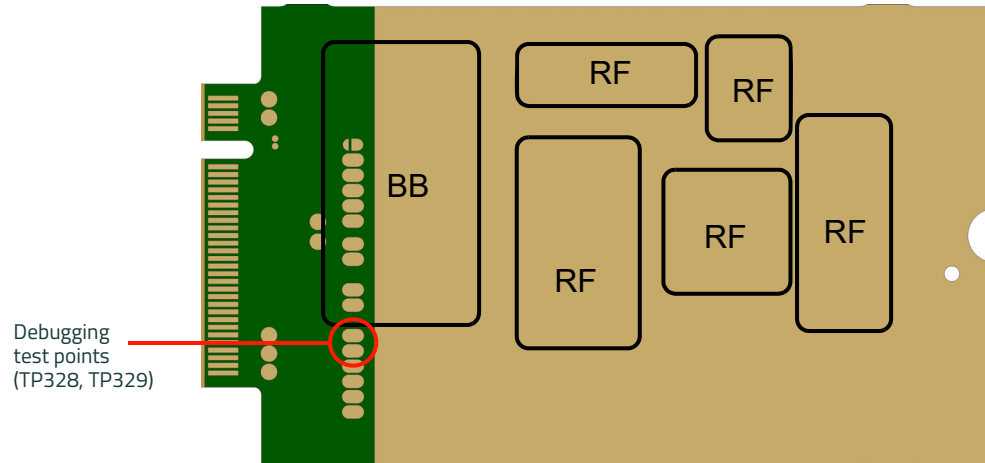
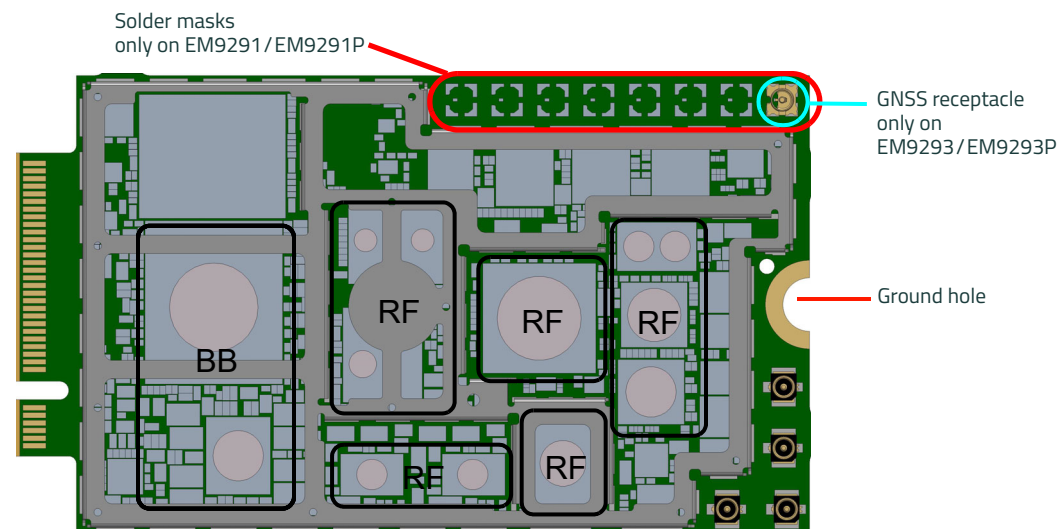

Figure 6-6: Regions requiring thermal dissipation (Bottom view)
Figure 6-7: Regions requiring thermal dissipation (Top View)
Sierra Wireless recommends that the host device dissipate heat from the bottom surface of the module PCB and, if desired, from the top surface of the module shield. Figure 6-6 and Figure 6-7 display the locations of significant heat sources (BB — baseband components, RF — RF components) that require heat dissipation.
- Note — Sierra Wireless recommends that the debugging test points (TP328 and TP329, see Figure 6-6) remain accessible for Sierra Wireless to assist in system debugging. Make sure the test points are not shorted to anything.
- Monitor temperature at all shield locations. Attach thermocouples to the areas indicated in Figure 6-7 on page 73 (RF, Baseband).